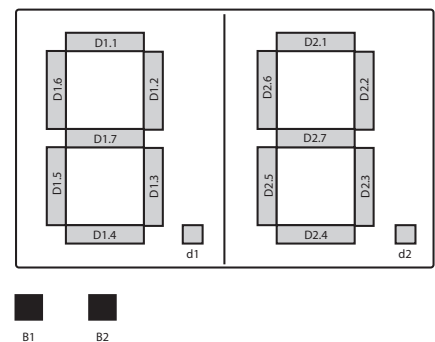
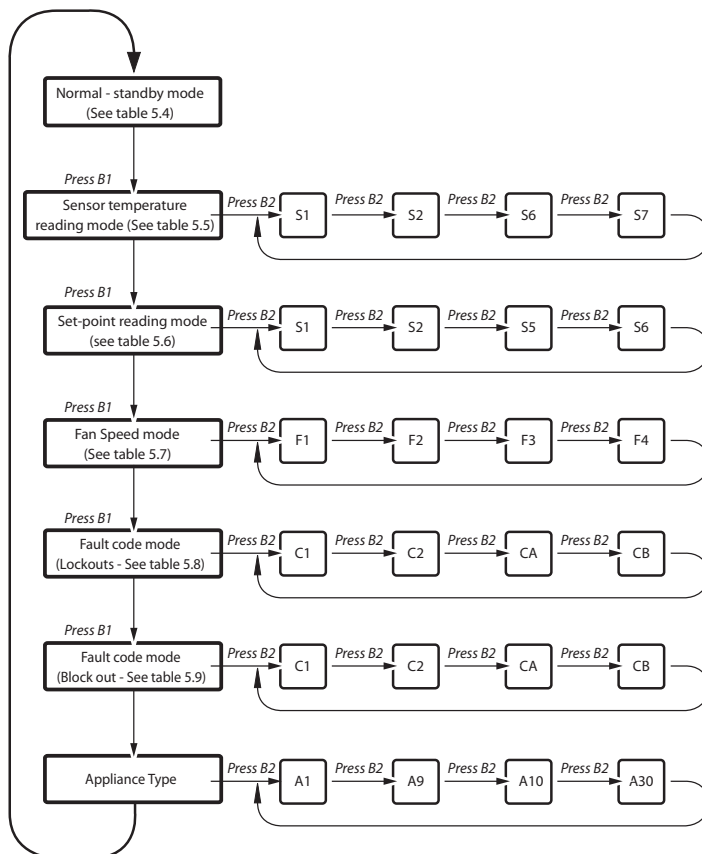

Figure 5.2 Display and push buttons on main PCB
Figure 5.3 Display and push buttons on main PCB
The controller functions and faults are indicated on the 2 digit display mounted on the main PCB and the display functions are selected by the push buttons B1 and B2 (figure 5.2). The flow chart of the display mode is shown in figure 5.3. The display functions are described below: -
- (a) **Normal mode:** In this mode the display (figure 5.2) is used to indicate the status of different input demands and output functions. The first left hand digit is used to indicate demands sensed by the controller and the second right hand digit indicates the output functions of the controller.
- When going from the show 'locking error' to show 'blocking error' menu (see figure 5.3), do not release the button but hold it for 10 seconds. The display will change from 'c' to 'A'. At this stage the push button (B1) can be released.